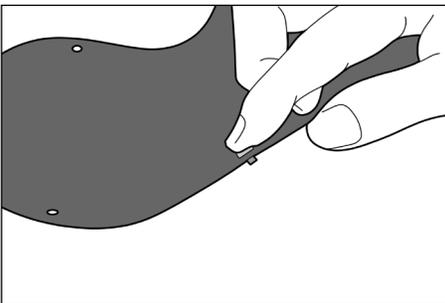

Fig. 11
1. Place (1) M3 PHS through the hole with the head of the screw on the inside surface. Hold the head of the screw in place with the pad of your finger. (Fig 11).